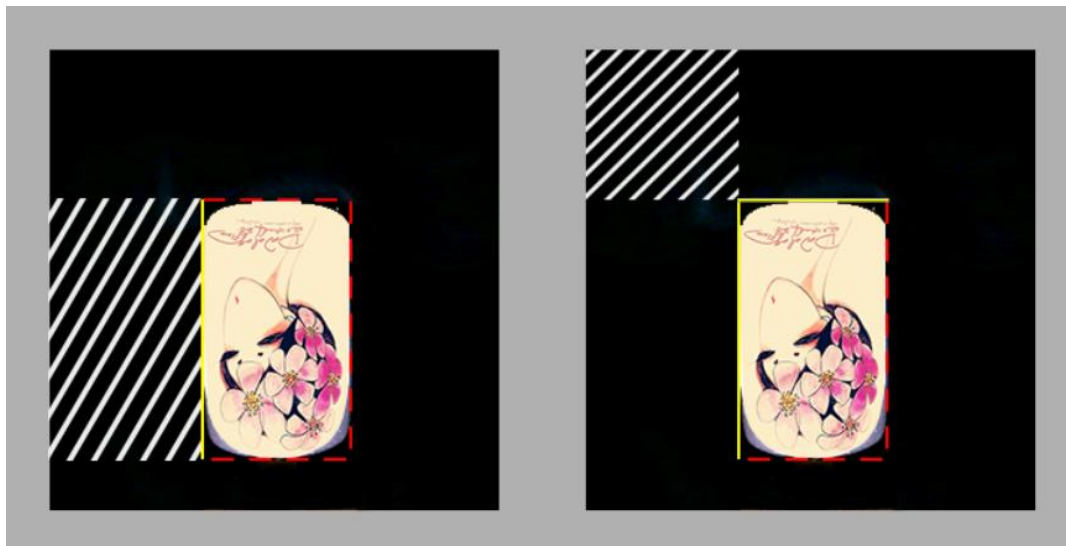

Figure 9
(2) Drag the side or corner of the red box (drag within the demonstration area is recommended, as shown in Figure 9. The yellow line appeared when dragging) and use the function keys to adjust the size and position of the red box so that its size is slightly larger than fingernail.